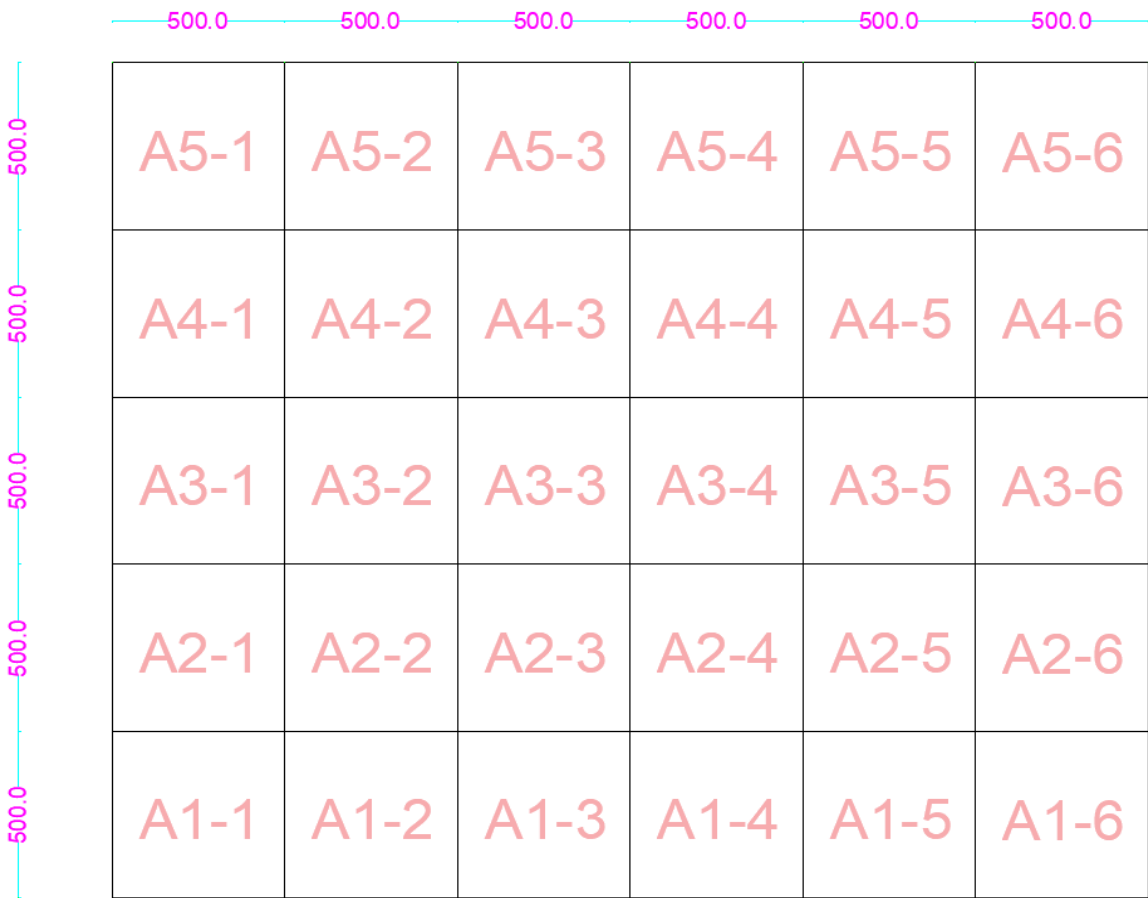

Fig 2-3
- 2. Take out the boxes, arrange them according to the number of boxes, pay attention to the box size (Figure 2-3) .